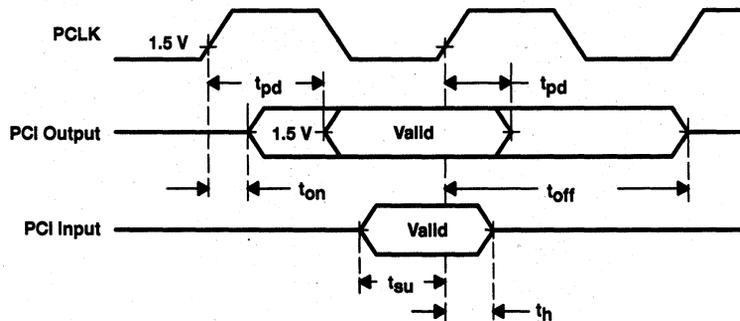

Figure 17. Shared Signals Timing Waveforms
**PCI timing requirements over recommended ranges of supply voltage and operating free-air temperature (see Figure 14 and Figure 17)**